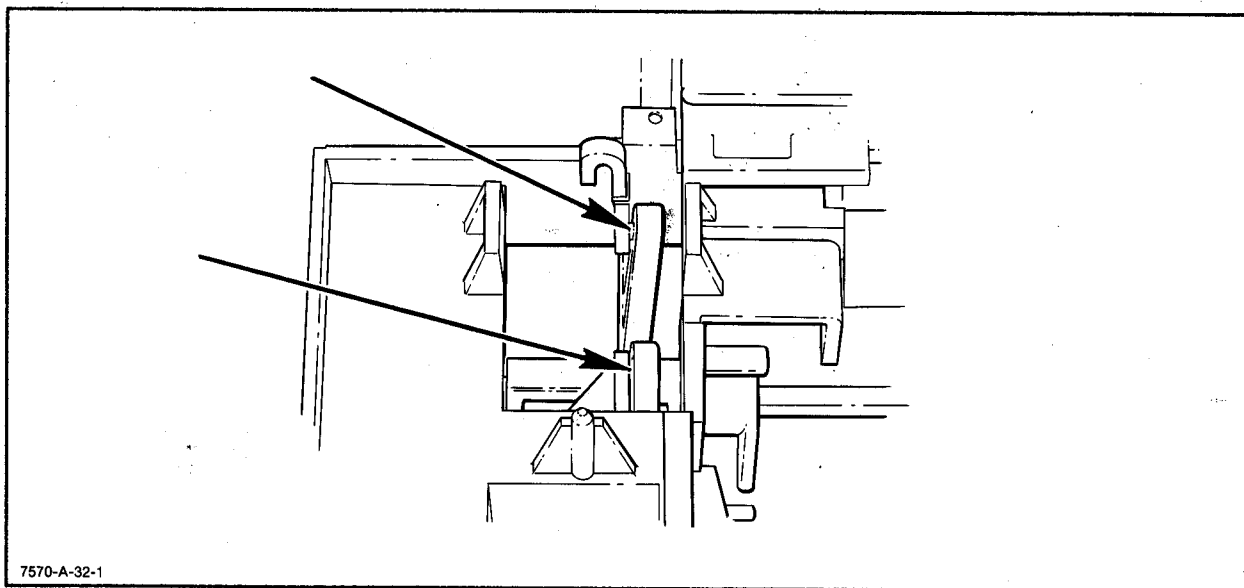

Figure 6-29. Paper Alignment Arm Pivots
Assure that the paper alignment arms are properly positioned on their pivots before installing the pinch wheel arm. See Figure 6-29
- i. The rear paper alignment arm may now be removed. See Figure 6-29.